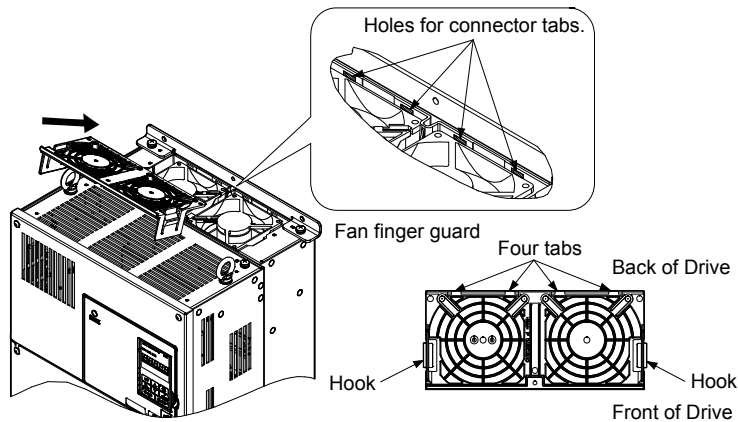

Figure 7.18 Reattach the Fan Finger Guard: 4A0088 and 4A0103
3. Angle the fan finger guard as shown in *Figure 7.18* and insert the connector tabs into the corresponding holes on the drive.